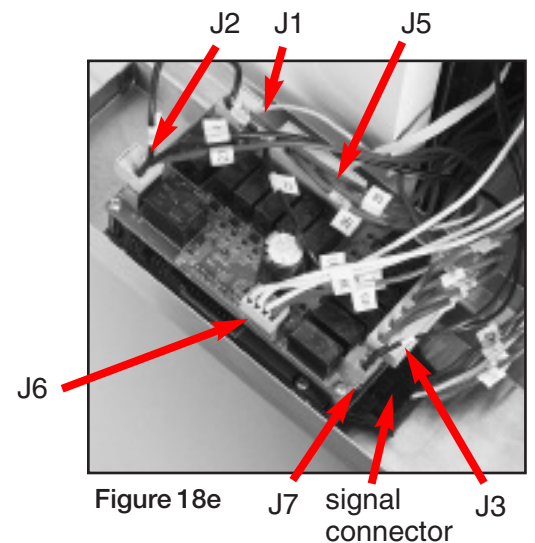

Figure 18e
6. Disconnect the signal connector from the bottom of the logic board (Figure 18e).